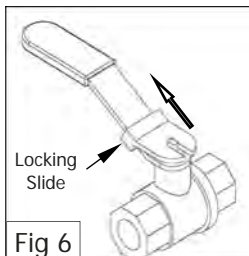

Fig 6
- a. Lift locking slide on valve handle (Fig 6) to release valve.
- c. When valve is closed, locking slide will drop down over locking valve to prevent accidental opening of the valve (See Fig.6).